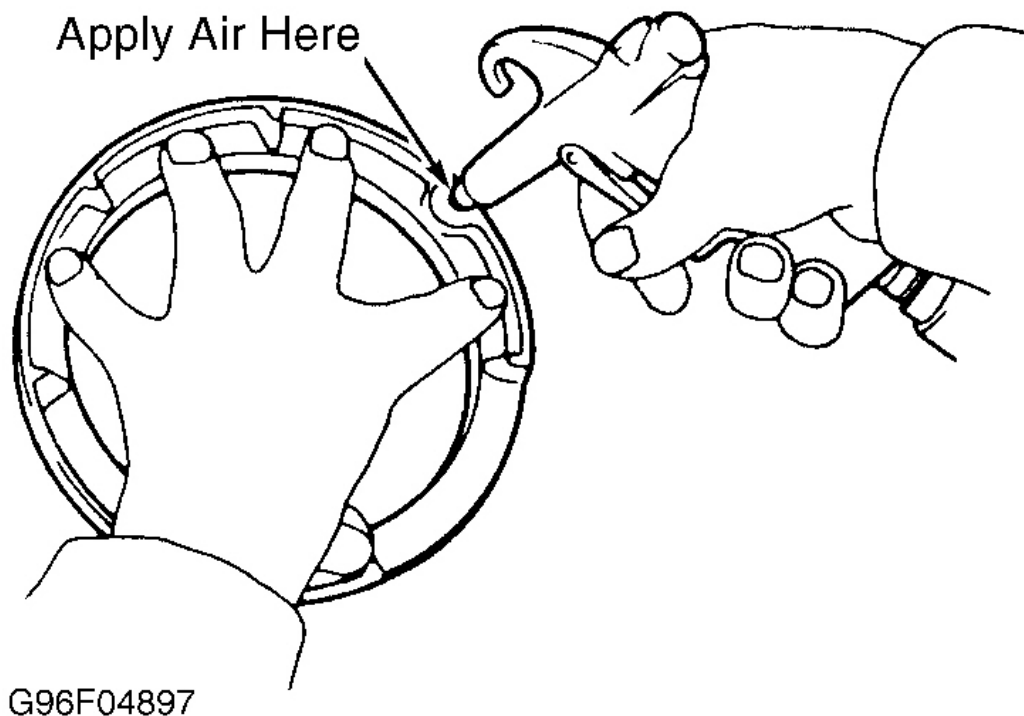

Fig. 51: Removing Overdrive Brake Piston
2. Remove piston from drum by applying compressed air to oil hole. See **Fig. 51** . Ensure piston does not tilt. Remove "O" rings from piston. Inspect disc, plate and flange. If discs are replaced, soak discs in ATF for 15 minutes.